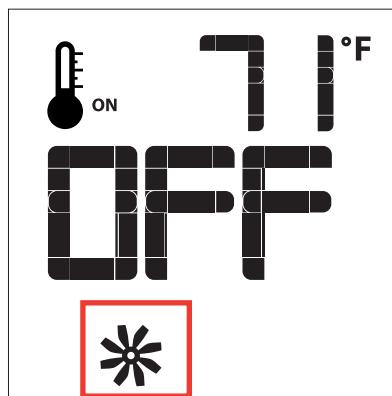
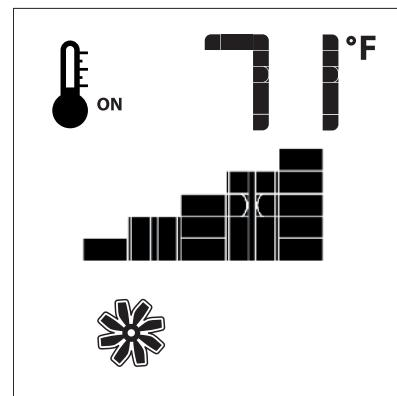

Fig. 13
Fig. 14
If the appliance is equipped with a hot air circulating fan, the speed of the fan can be controlled by the Proflame system. The fan speed can be adjusted through six (6) speeds. To activate this function use the Mode Key (fig.1) to index to the fan control icon (Fig. 13). Use the Up/Down Arrow Keys (Fig.1) to turn on, off or adjust the fan speed (fig. 14). A single "beep" will confirm reception of the command.